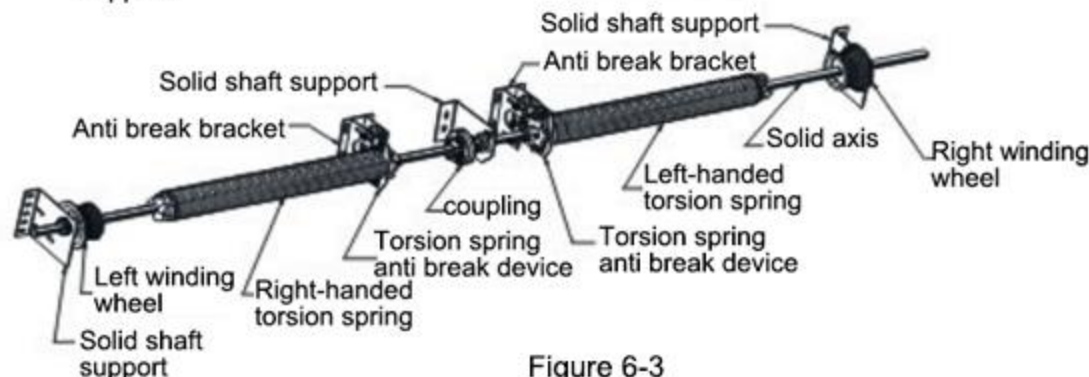

Figure 6-3
6.1.3 Assembling the balance system in high-level lifting mode (Figure 6-3)